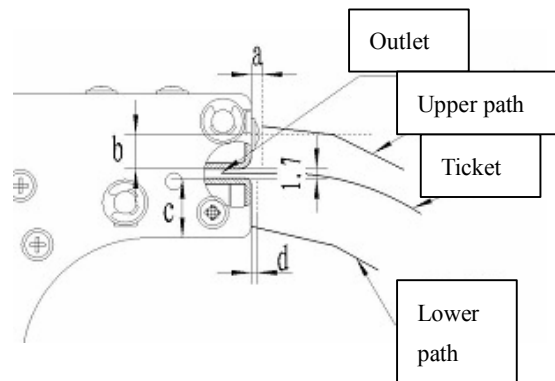

Figure 4.7-8 Paper out interface 2
- Avoid paper go through too long alleyway and decrease resistance to paper in order to paper out effectively (namely the paper can spitting out effectively) when the printer spitting the paper. Please refer to the figure 4.7-8 Paper out interface 2.